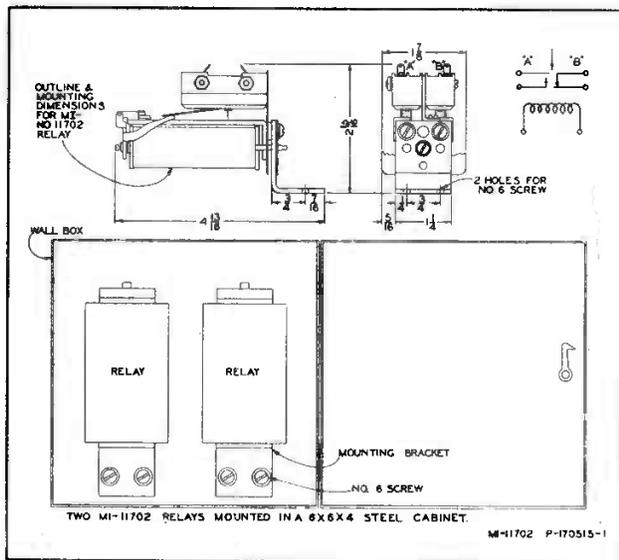

Figure 12 — Relay Mounting Diagram
(1) Mount the two relays in a metal box as shown in figure 12 and install the box near the studio.
(1) Mount the relay in a metal box as shown in figure 12, and install the box near the control room.
(2) Mount the two relays in a metal box as shown in figure 12 and install the box near the announce booth.